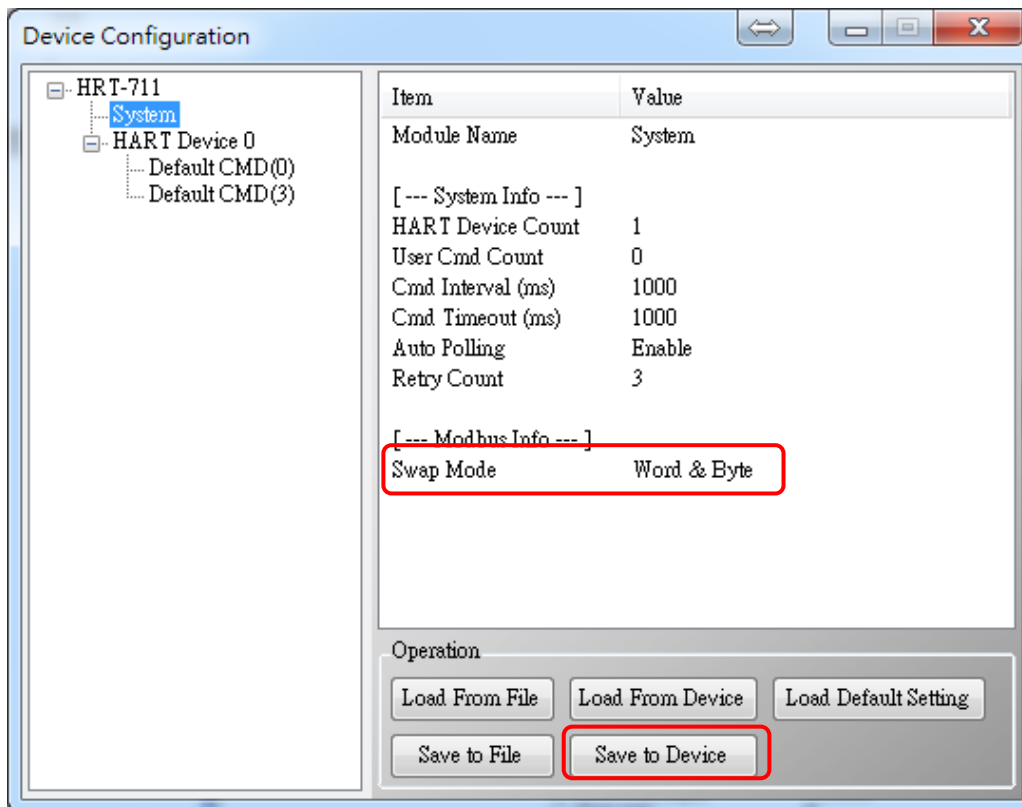

Figure 3-3 “Save to Device” function
- [3] Click the “Save to Device” button to save the new system setting to HRT-710 like Figure 3-3.